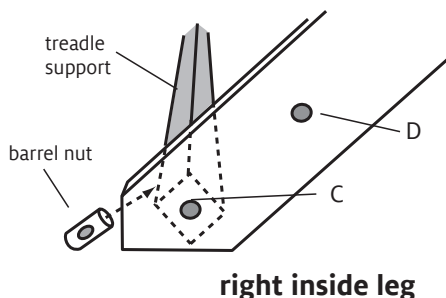

FIGURE 4: INSIDE LEG
7. From the front of the loom, detach all tie-up cords. Remove the arrow peg under the brake release pedal and detach the brake cord. Remove the machine screws and the 1/4-20 barrel nuts holding the treadle support from the hole closest to the floor (Figure 4). Set aside the barrel nuts for Step 12. Spread the inside legs apart and remove the treadle support.
the inside of the leg through the bottom hole [C] (Figure 4, page 3), then through the hole with the threaded insert on the height extender block (3rd hole from the bottom). Secure firmly.
13. Finish attaching the height extender blocks by inserting a 1/4-20 x 1-3/4" Phillips truss head machine screw from the inner side of the leg through the top hole [D] (Figure 4, page 3) and the top hole of the height extender block. Secure the screw with a 1/4" washer and 1/4-20 lock nut. Repeat for the other inside leg.